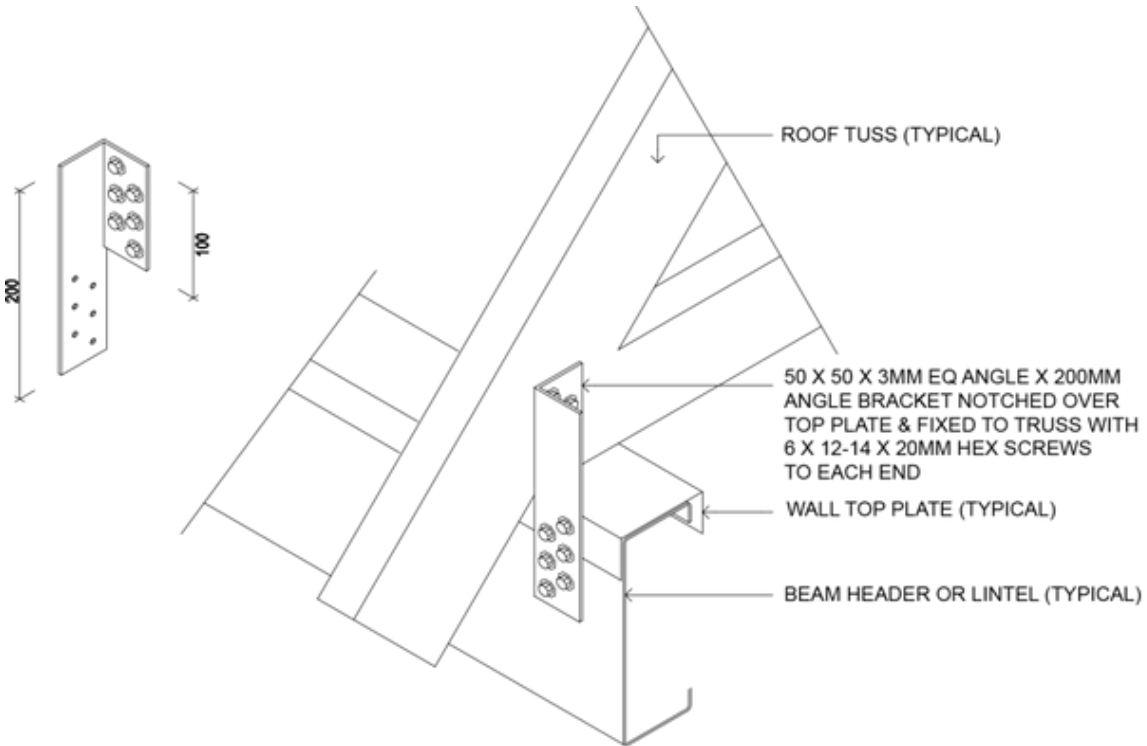
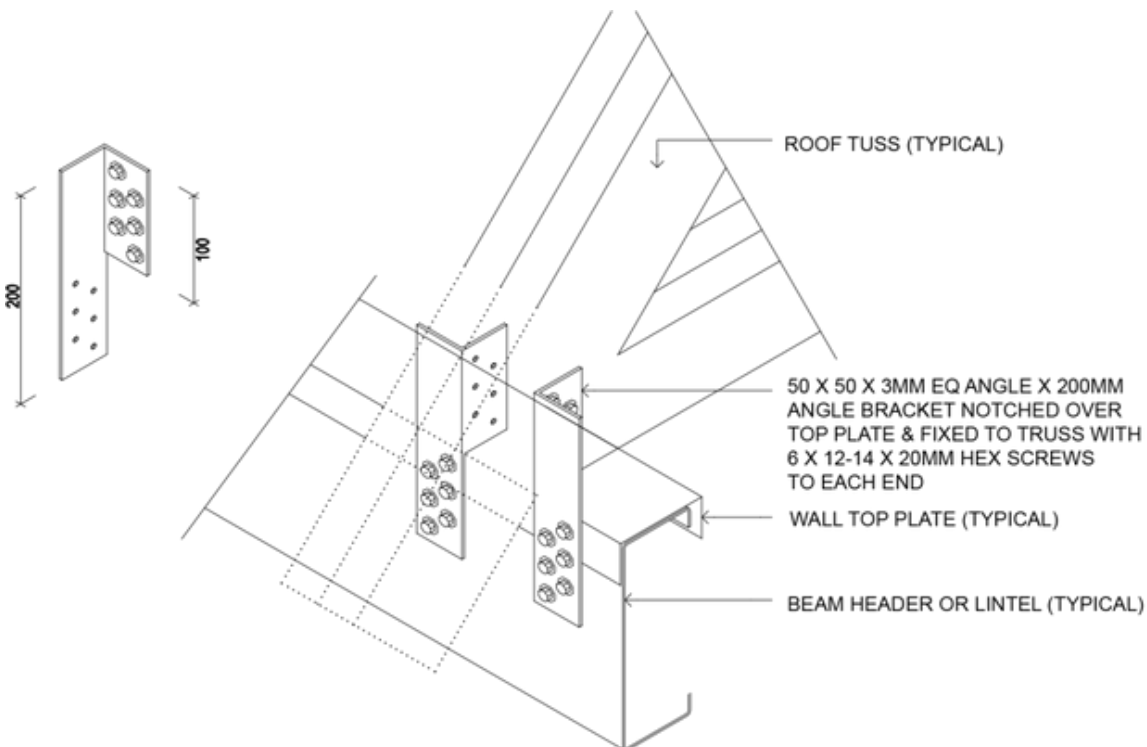
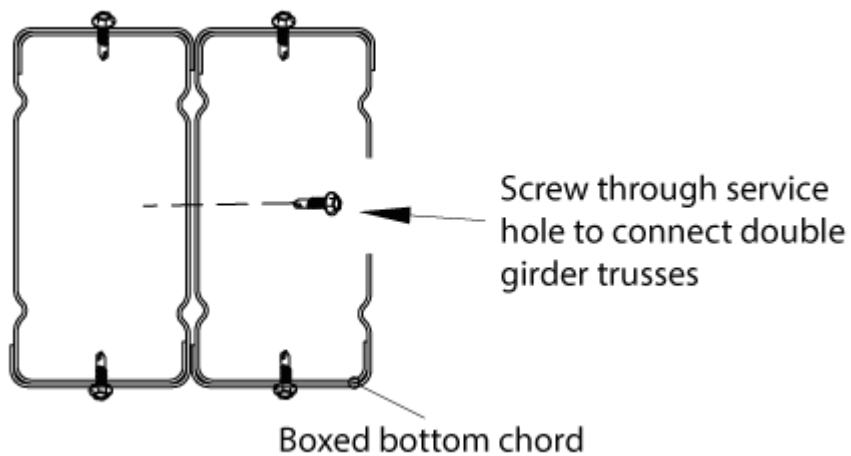

Figure 7.19 Single girder truss to wall top plate connection using angle tie downs
Figure 7.21 Girder truss to wall top plate connection using angle brackets
Figure 7.23 Connection between double girder trusses
Step 8: A single girder truss can be tied down using either a 25 x 5mm strap tie down or a 50 x 50 x 3mm angle tie down as is shown in **Figures 7.19** or **7.20**. Install the second ply girder truss (if applicable) with the toes of both trusses facing each other and fix it to the brackets as shown in **Figures 7.21** or **7.22**. Install 1x12-14x20 Hex Head screws through **every** service hole provided on the bottom chord to connect the two trusses together as shown in **Figures 7.23**.